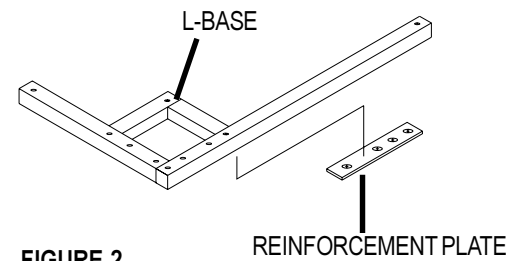

FIGURE 2.
2. Place the L-base in the right rear corner of the trunk. The bottom plate should be in line with the back and side of the trunk. See figure 2.